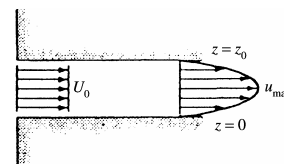

Fig. P3.17
3.17 Incompressible steady flow in the inlet between parallel plates in Fig. P3.17 is uniform, $u = U_0 = 8$ cm/s, while downstream the flow develops into the parabolic laminar profile $u = az(z_0 - z)$, where a is a constant. If $z_0 = 4$ cm and the fluid is SAE 30 oil at 20°C , what is the value of u_{\max} in cm/s?